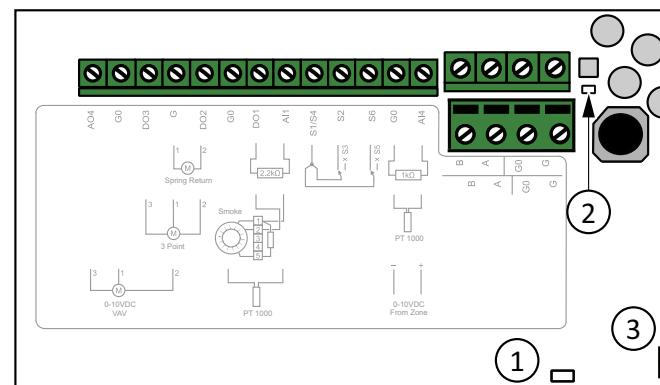

Figure 4 Inside the SCS-S2. 1 = LED light for status, 2 = LED light for communication, 3 = Push-button
10. Press the push button on the damper units, see *Figure 4*. The LED lights up in magenta.
When identified, LED light 1 in the unit will start blinking, see *Figure 4*.
3. LED light 1 in the unit will start blinking for approx. five (5) seconds, see *Figure 4*.
2. Press the button in the unit, see *Figure 4*
It's possible to reset the device to factory settings via the button, see *Figure 4*.
1. Push and hold the button for 10 seconds. LED 1 (*Figure 4*) will turn red.